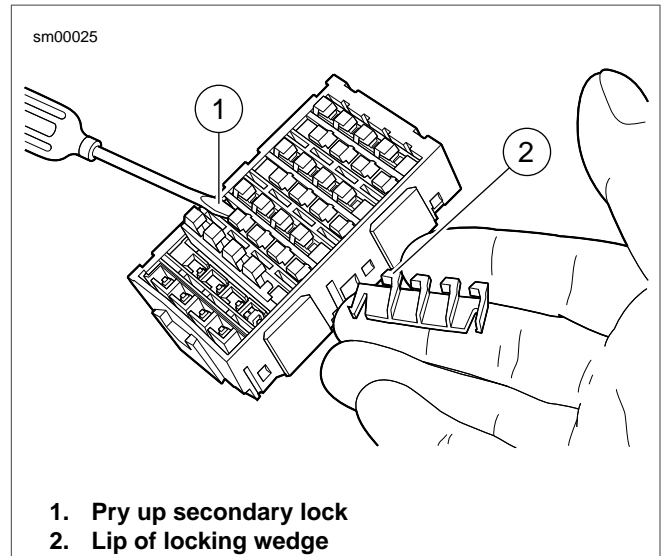

Figure A-23. Fuse Block: Remove Secondary Locks
1. See Figure A-23. To remove secondary locks, insert end of small flat blade screwdriver (1) under lip of locking wedge (2) and gently pry up secondary lock.